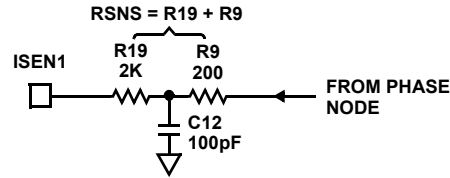

FIGURE 10. NOISE FILTER FOR ISEN1 INPUT
5. A ‘T’ filter consisting of a ‘split’ RSNS and a small, 100pF, capacitor as shown in Figure 10, may be helpful in reducing noise coupling into the ISEN input. For example, if the calculated value of RSNS1 is 2.2kΩ, dividing it as shown with a 100pF capacitor provides filtering without changing the current limit set point. For any calculated value of RSNS, keep the value of the R9 portion to approximately 200Ω, and the remainder of the resistance in the R19 position. The 200Ω resistor and 100pF capacitor provide effective filtering for noise above 8MHz.